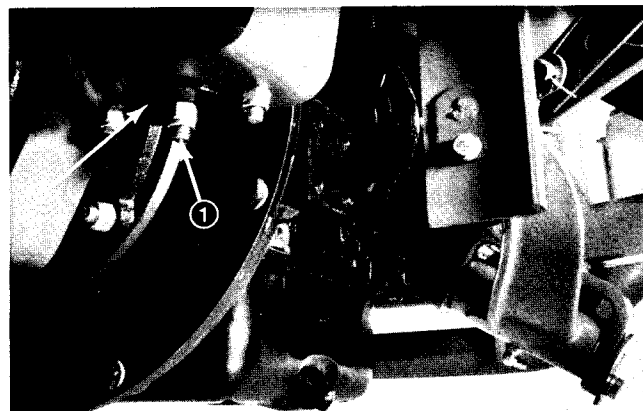

Figure 59
10. Remove the locknut, rebound washer and bolt securing the engine to each of four rubber engine mounts (Fig. 59).